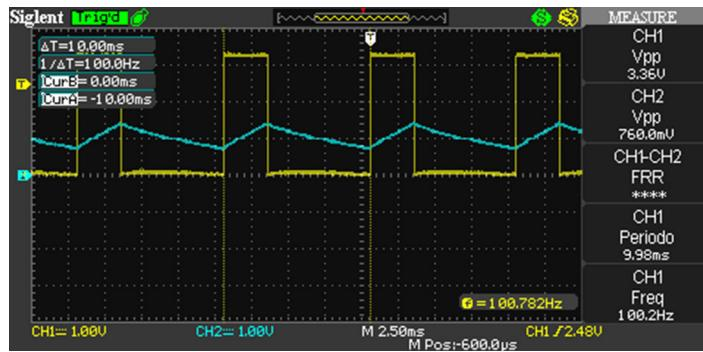

Figure 11.26: The effect of a low-pass filter with cut-off frequency equal to 15.9Hz
**Figure 11.26** shows the effect of a low-pass filter on a PWM signal with a frequency of 100Hz. Here we have chosen a 1K resistor and a  $10\mu F$  capacitor. This means that the cut-off frequency is equal to: